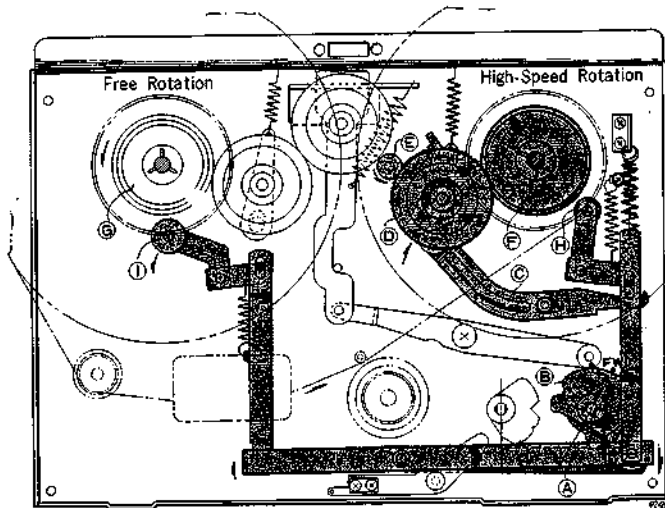

Fig. 3
Turning the *FAST FWD-REWIND knob (A)* to "FAST FWD" position, causes the *cam (B)* under the knob to push up *Lever (C)*. *Idler (D)* moves into the space between *Plastic Roller (F)* above the *Take-Up Reel Spindle* and the upper part of the rotating motor drive bushing to transmit the motor rotation to the take-up reel spindle. At the same time, *Brake Rollers (H)* and *(I)* comes off the reel spindle to free the *Supply Reel Spindle (G)*, thereby allowing fast winding of the tape onto the take-up reel. (See figure 3)